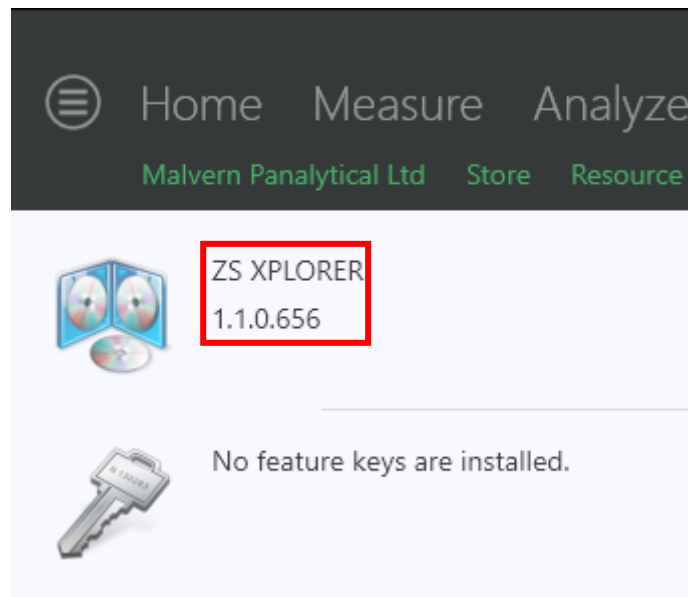

Figure 26: Software Version Number
3. Read version number (Figure 26)